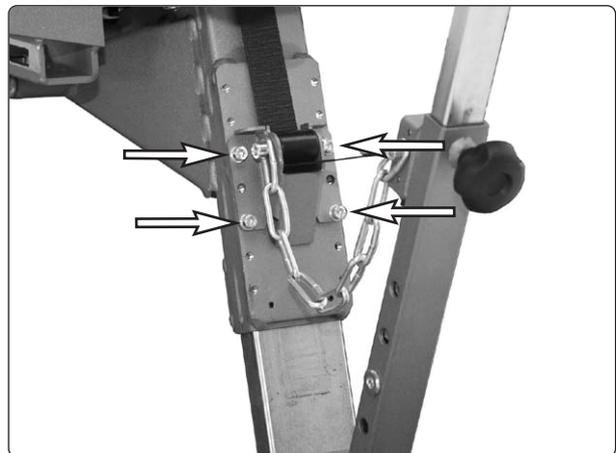

Fig. 42. The roller is mounted with four screws and can be moved in 5 steps of 20 mm intervals.
2. If the angle of the strap needs to be adjusted, remove the roller's bracket by unscrewing and removing the four screws, see Fig. 42.
4. Mount the roller's bracket in a suitable position and screw the four screws back in, see Fig. 42.